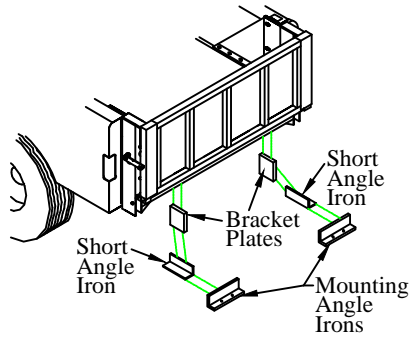

Figure 17: Lower bracket support.
2. **Bolt** the bracket plates to the truck frame (Figure 17).